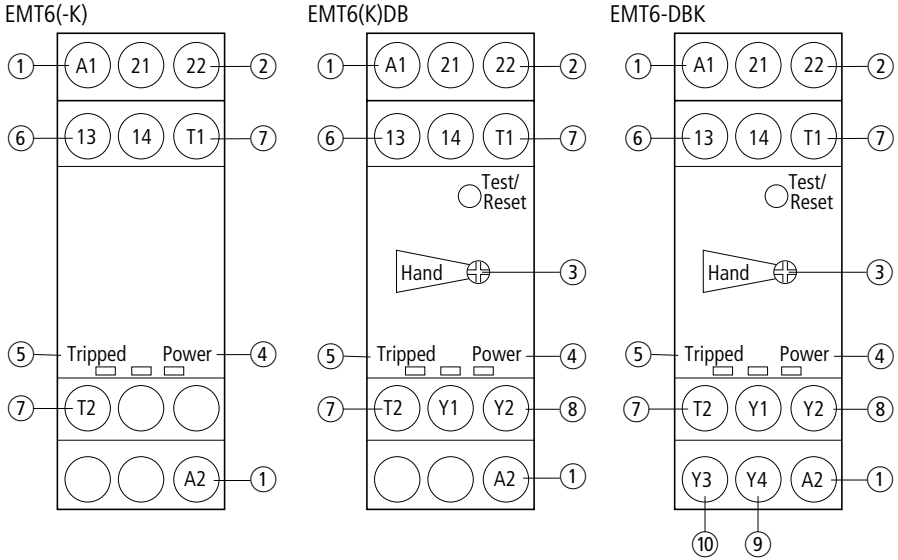

Figure 7 : Terminals
For the protection against overtemperature, up to six PTC resistor temperature sensors to DIN 44081 PTC Resistors, or up to two temperature sensors to DIN 44082 Triple PTC Resistors with a PTC resistance of $R_K \leq 250 \Omega$, or nine sensors with a PTC resistance of $R_K \leq 100 \Omega$ can be connected to the EMT6 terminals T1-T2 (→ Fig. 7, Page 18).
The short-circuit monitoring of the EMT6-DBK can be disabled by means of a wire jumper between terminals Y1-Y3 (→ Fig. 7, Page 18).
The EMT6, EMT6-K and EMT6(230V) have a setting fixed to "Automatic reset" mode. The automatic reset can also be selected with the EMT6-DB, EMT6-DB(230V), EMT6-KDB and EMT6-DBK units. The selector switch (→ Fig. 7, Page 18, legend ③) is set to "AUTO" for this purpose.
The manual reset can also be selected with the EMT6-DB, EMT6-DB(230V), EMT6-KDB and EMT6-DBK units. The selector switch (→ Fig. 7, Page 18, legend ③) is set to “Manual” for this purpose.
➔ Zero-voltage protection can be disabled by bridging terminals Y1 and Y4 (➔ figure 7, Page 18).
➔ Short-circuit protection can be disabled by bridging terminals Y1 and Y3 (➔ figure 7, Page 18).